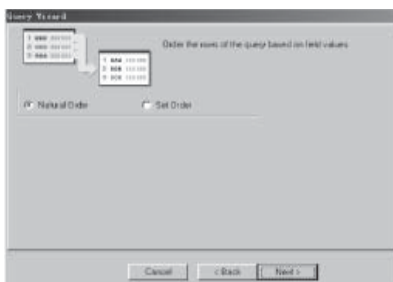

Fig. 8-10 Set Ordering Fields
2.7 Select the ordering conditions as in Fig. 8-10. 'Natural Order' means not ordering and 'Set Order' means selecting the ordering fields. Then click the 'Next' button.